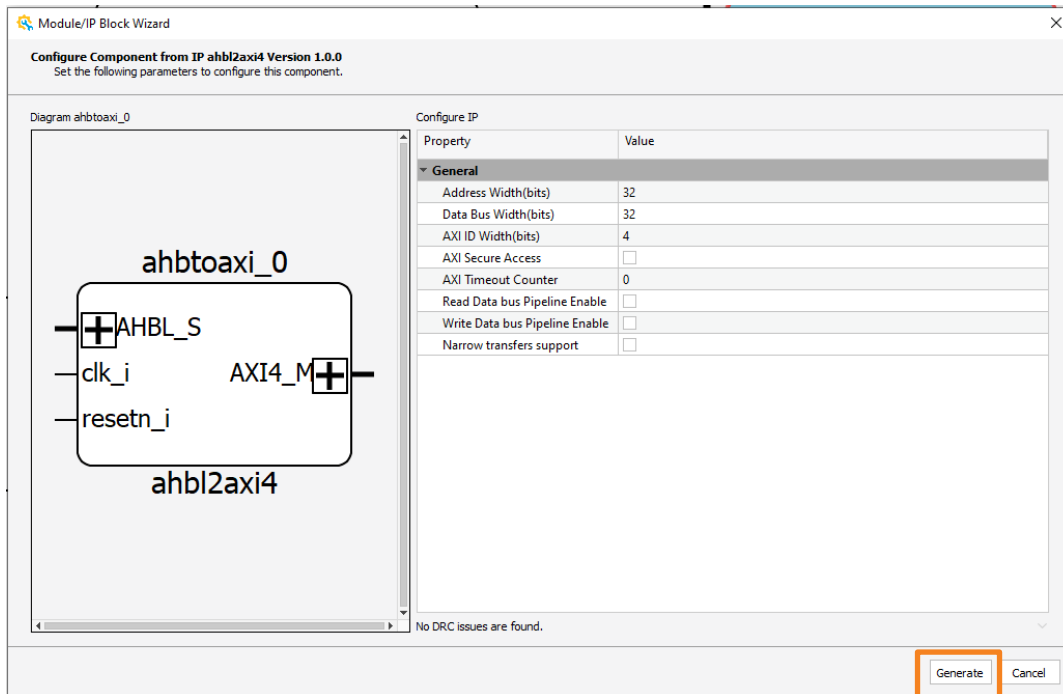

Figure 4.2 IP Configuration
3. In the next Module/IP Block Wizard window, customize the IP according to your required configuration. Figure 4.2 shows an example configuration. For more details on the configuration options, please refer to Section 2.3.